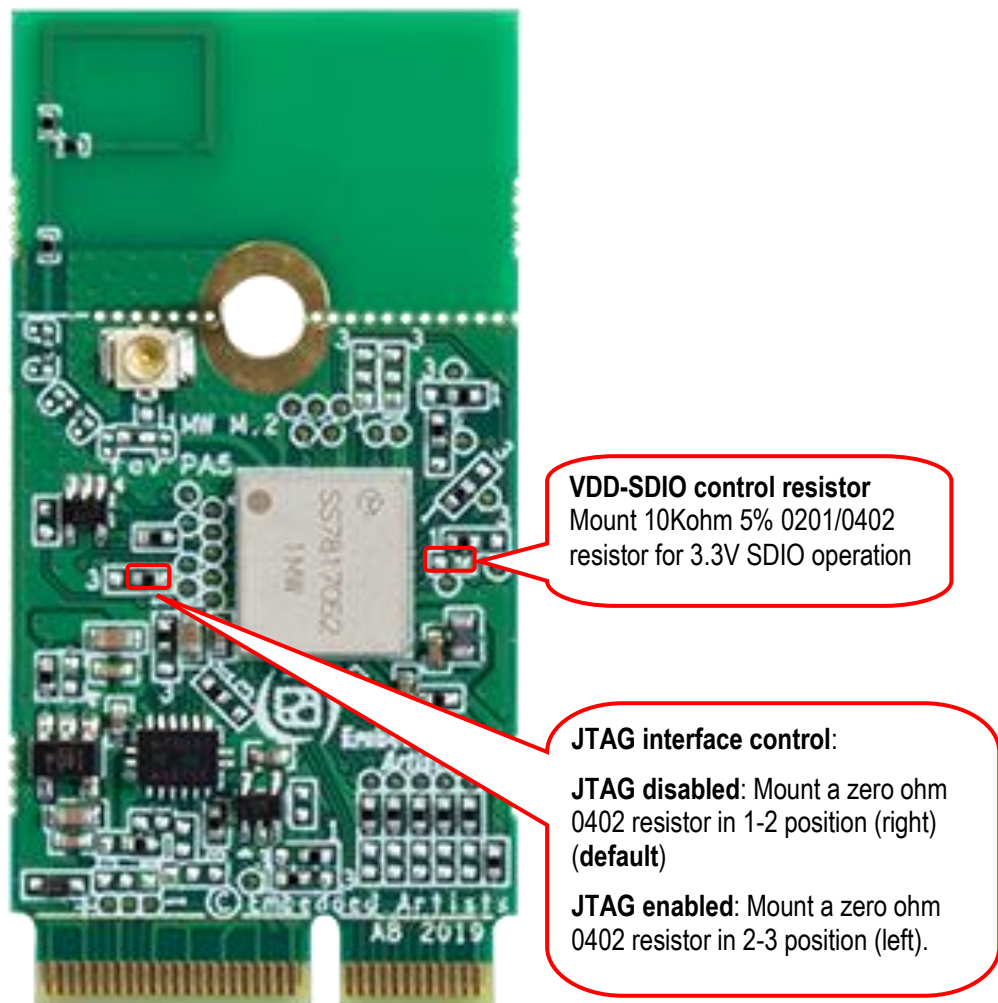

Figure 4 – 1MW M.2 Module VDD-SDIO and JTAG Interface Control
**Note** that it is not enough to connect a 3.3V supply to pin 64. The VDD-SDIO control resistor must also be mounted (10Kohm, 5%, 0201/0402 resistor), see Figure 4 below in the next section for the location of this resistor.